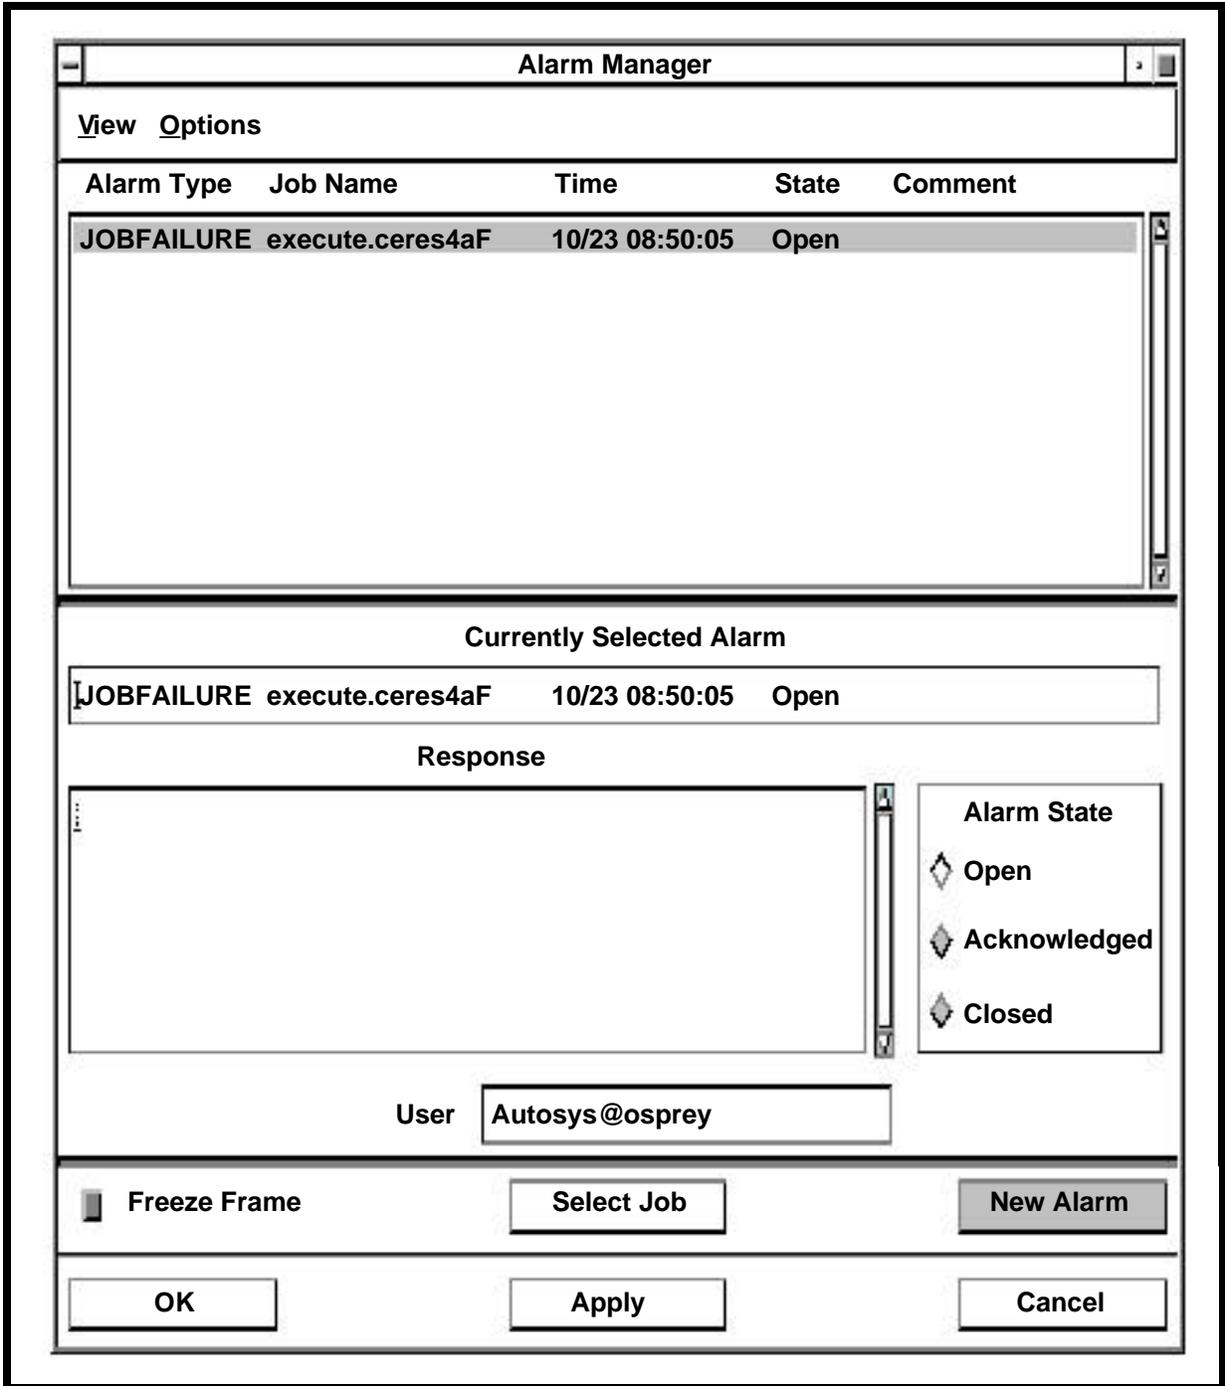

Figure 21. Alarm Manager GUI
- The **Alarm Manager** GUI page (Figure 21) is displayed.